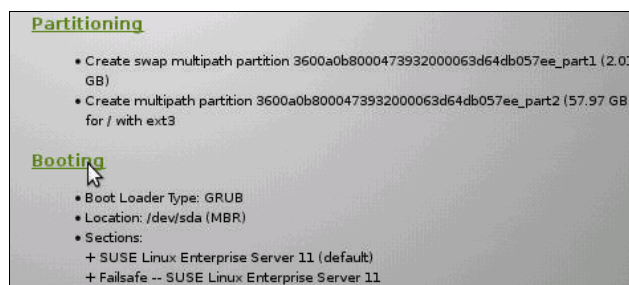

Figure 2-103 Selecting Bootling to change the Grub
10. We now need to update the SUSE Linux Enterprise Server Grub file with the Multipathing information. Click **Bootling** to update the Grub file as shown in Figure 2-103. Here we see that the location is still showing /dev/sda (MBR).